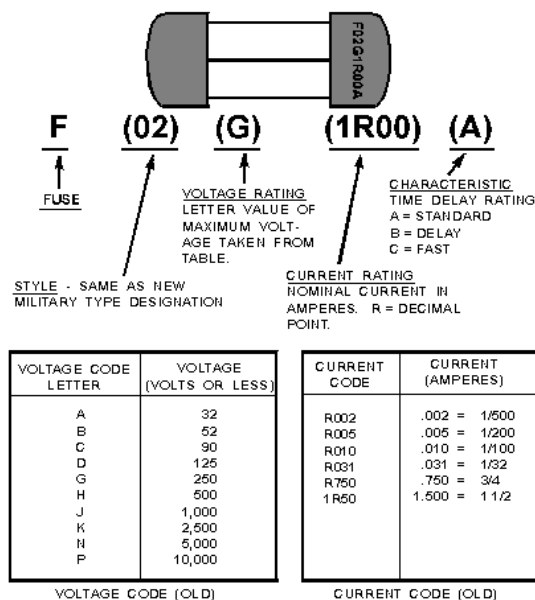
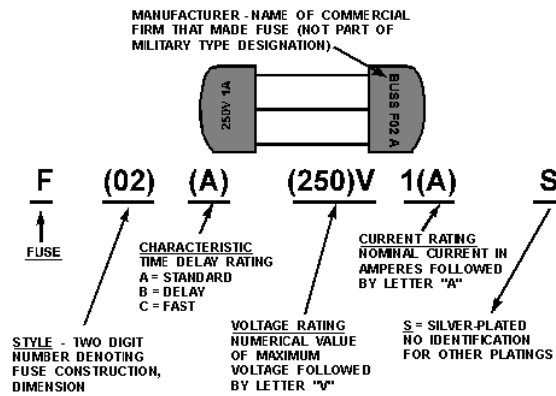

Figure 2-8.—Old type military fuse designation.
Figure 2-9.—New type military fuse designation.
Figure 2-8 shows a fuse with the old military designation. The tables in the lower part of the figure show the voltage and current codes used in this system. The upper portion of the figure is the explanation of the old military designation. The numbers and letters in parentheses are the coding for the fuse shown in figure 2-8.
The old military designation always starts with "F," which stands for fuse. Next, the set of numbers (02) indicates the style. Style means the construction and dimensions (size) of the fuse. Following the style is a letter that represents the voltage rating of the fuse (G). The voltage code table in figure 2-8 shows each voltage rating letter and its meaning in volts. In the example shown, the voltage ratings is G,
which means the fuse should be used in a circuit where the voltage is 250 volts or less. After this is a set of three numbers and the letter "R," which represent the current rating of the fuse. The "R" indicates the decimal point. In the example shown, the current rating is 1R00 or 1.00 ampere. Some other examples of the current rating are shown in the current code table of figure 2-8. The final letter in the old military designation (A) indicates the time delay rating of the fuse.
Figure 2-9 is an example of a fuse coded in the new military designation. The fuse identified in the example in figure 2-9 is the same type as the fuse used as an example in figure 2-8.
You may find a fuse coded in one of the commercial designations. The commercial designations are fairly easy to understand and figure 2-10 shows the old and new commercial designations for the same type of fuse that was used in figures 2-8 and 2-9.
In the example shown, the code 3AG represents the same information as the underlined portions of F02 G 1R00 A from figure 2-8 (Old Military Designation) and F02A 250VIAS from figure 2-9 (New Military Designation). The only way to know the time delay rating of this fuse is to look it up in the manufacturer's catalog or in a cross-reference listing to find the military designation. The catalog will tell you the physical size, the material from which the fuse is constructed, and the time delay rating of the fuse. A 3AG fuse is a glass-bodied fuse, 1/4 inch · 1 1/4 inches (6.35 millimeters · 31.8 millimeters) and has a standard time delay rating.